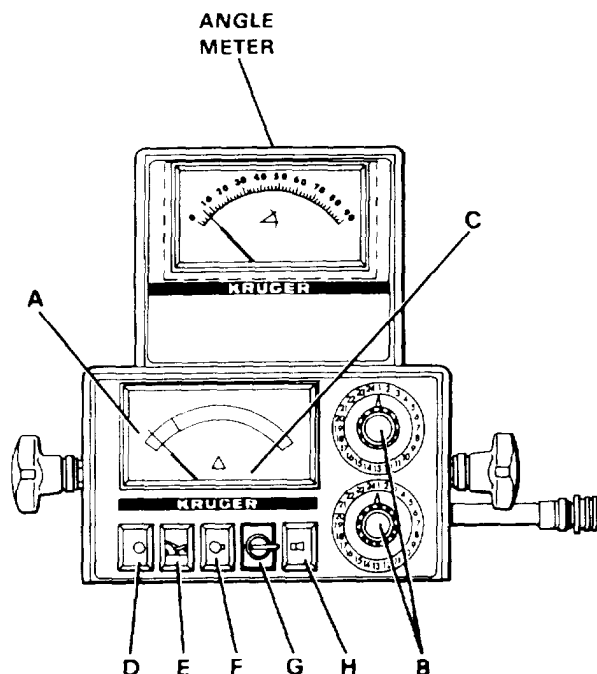

Figure 2-14. Angle Meter and Control Panel
ANGLE METER. This meter indicates boom angle from 0° to 90° (see Figure 2-14):
CONTROL PANEL. This unit contains the following items (see Figure 2-14):
- The green pilot light is ON (F, Figure 2-14)
- The red shut-off light is ON (D, Figure 2-14).
3. Press and hold the green test button (F, Figure 2-14).
5. Press the red on button (D, Figure 2-14)(shut-off light/reset button). The red shut-off light (on button) will go off when the button is released.
1 Shut-off light comes ON (D, Figure 2-14): Maximum allowable lifting capacity is being reached. Needle of the load meter is in the red. Lower the load or raise the boom and reset after corrected.
2. Pre-warning light comes ON (E, Figure 2-14): Approximately 90% of total load moment is reached. CAUTION.